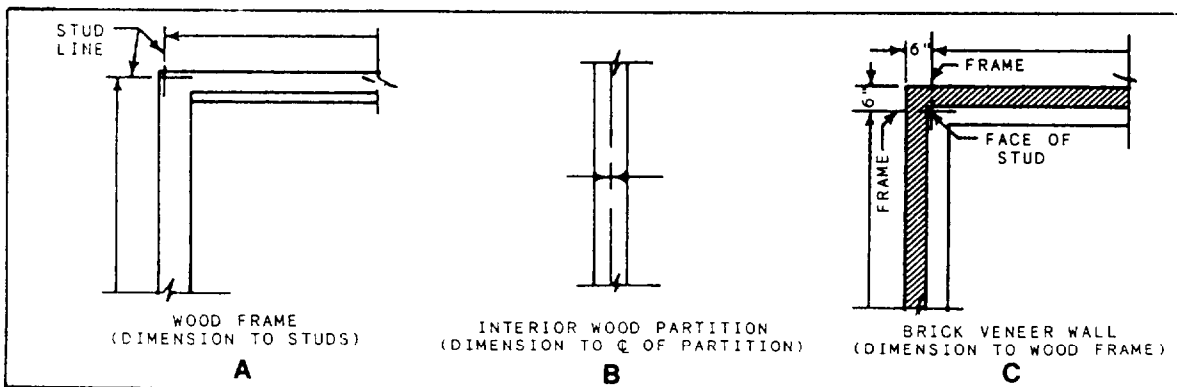
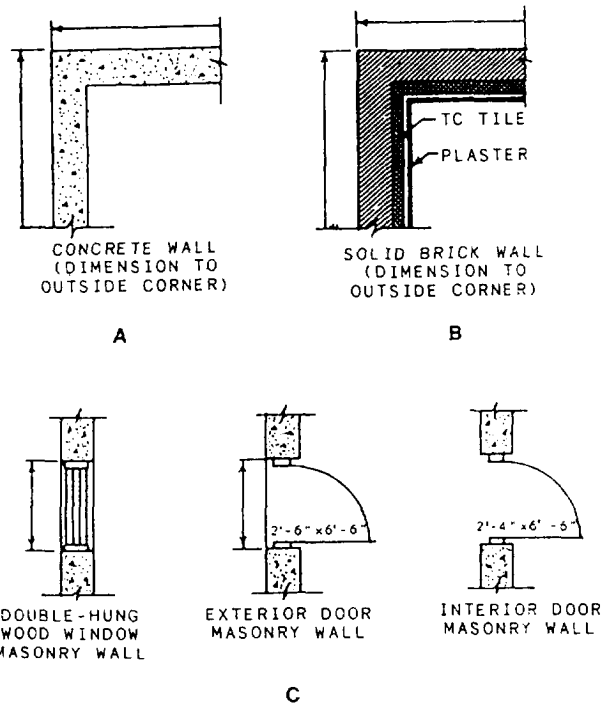

Figure 10-14.-Dimensioning wood-frame and veneer construction.
Figure 10-15.-Dimensioning concrete-masonry construction; window and door openings.
1. For wood-frame construction, locate the extension line of the exterior wall dimension at the outside face of the studs or stud line (fig. 10-14, view A). Partitions are measured from the
outside face of the studs to the center line of the partition (fig. 10-14, view B). In some cases, partitions are measured from the outside face of the studs to the face of the interior stud walls. The important thing is to be consistent. You must take extra care to see that all of the partition measurements are referenced from the same exterior wall. In wood frame with veneer construction, dimensioning is the same as wood frame without veneer (fig. 10-14, view C). The only difference is in the overall dimension showing the total size of the house when the veneer is added. In concrete-masonry constructions, the dimensions are all given to the face of the walls and not to the center lines, as shown in figure 10-15, views A and B.
concrete or masonry construction. Also see figure 10-15, view C, for dimensioning doors and windows in masonry construction.